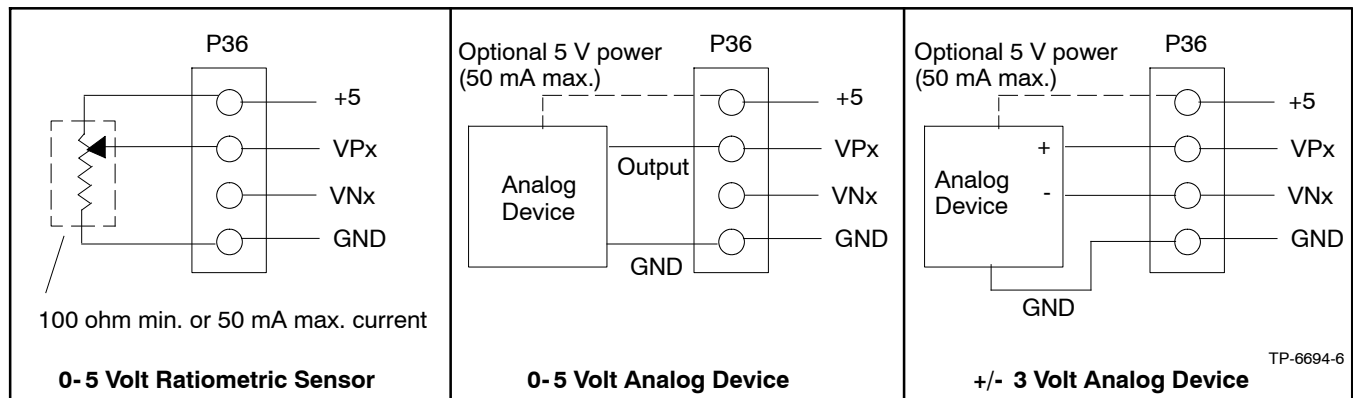

Figure 6-8 Dry Contact Kit Analog Input Connections P36
5. See Figure 6-8 for connections of analog inputs.
6. Select the normally open (NO) contacts of the relay, Form A dry contact, depending upon the application. Use a two-wire harness for the NO connections.